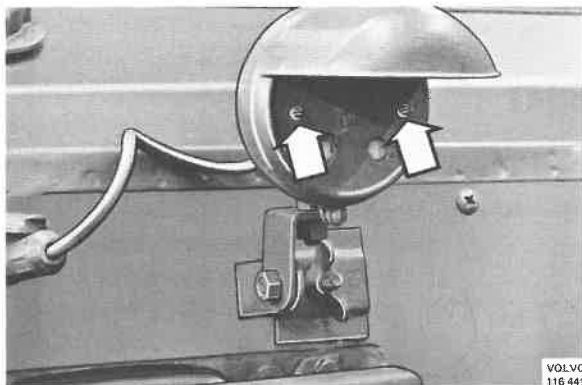

Fig. 35-12. Black-out light
1. Remove the glass from the light, see Fig. 35-12.